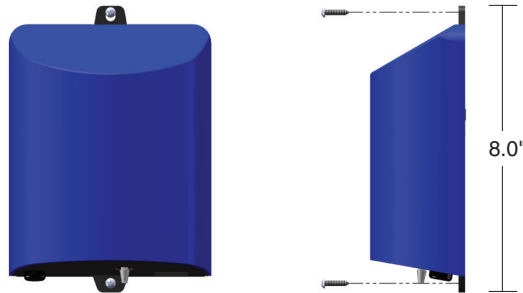

Figure 1: Wall Mount
- Install at least 5 feet (1.5 meters) from wall of pool. Install ozone generator no less than one (1) foot above maximum water level to prevent water from contacting electrical equipment. Install in accordance with the installation instructions.
- The ozone generator must be installed in an outdoor location, or indoors in a forced air ventilated room, and installed so that the orientation is exactly as shown in Figure 1.
The Ozone Generator units are designed for wall mounting. See Figure 1. Mount in a clean, protected area, either indoors or outdoors (preferably out of direct sunlight). Locate out of reach
- a. Refer to Figure 1 to mark the locations for the two mounting screws.